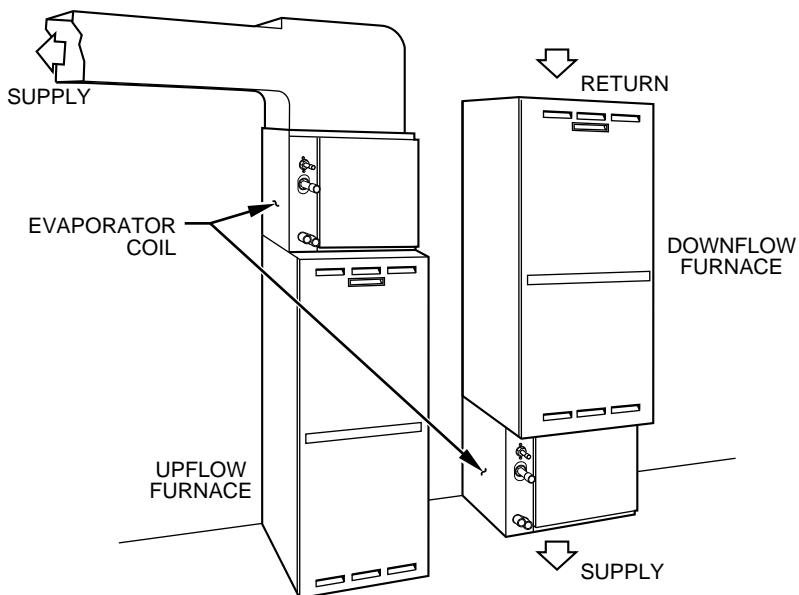

Fig. 1—Typical Coil Installation
Use this instruction manual to install indoor coils on upflow or downflow furnaces. (See Fig. 1.) Do not install coil in horizontal position. Model CJ5A is an unenclosed bare coil, requiring a field-fabricated or accessory enclosure. Model CK5A is enclosed in a painted casing while model CK5B is available in an embossed clear coated casing.
1. Set coil in place on upflow furnace discharge air opening. (See Fig. 1.)